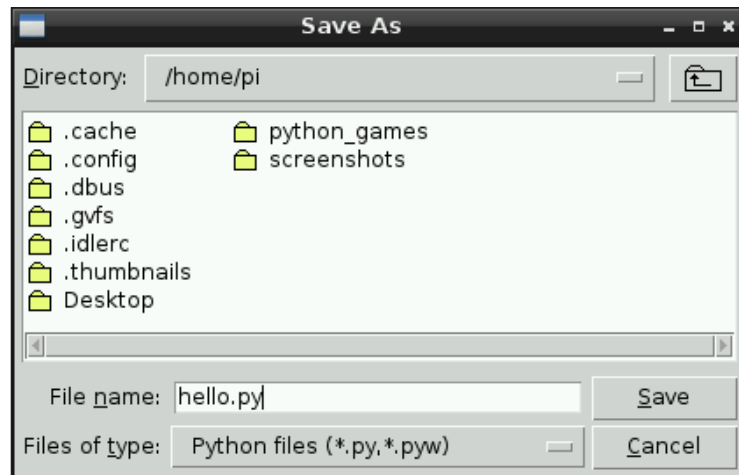

FIGURE 2-5:
4. Type in a filename (for this example, you can just call it `hello.py`), and then click Save as shown in Figure 2-5.